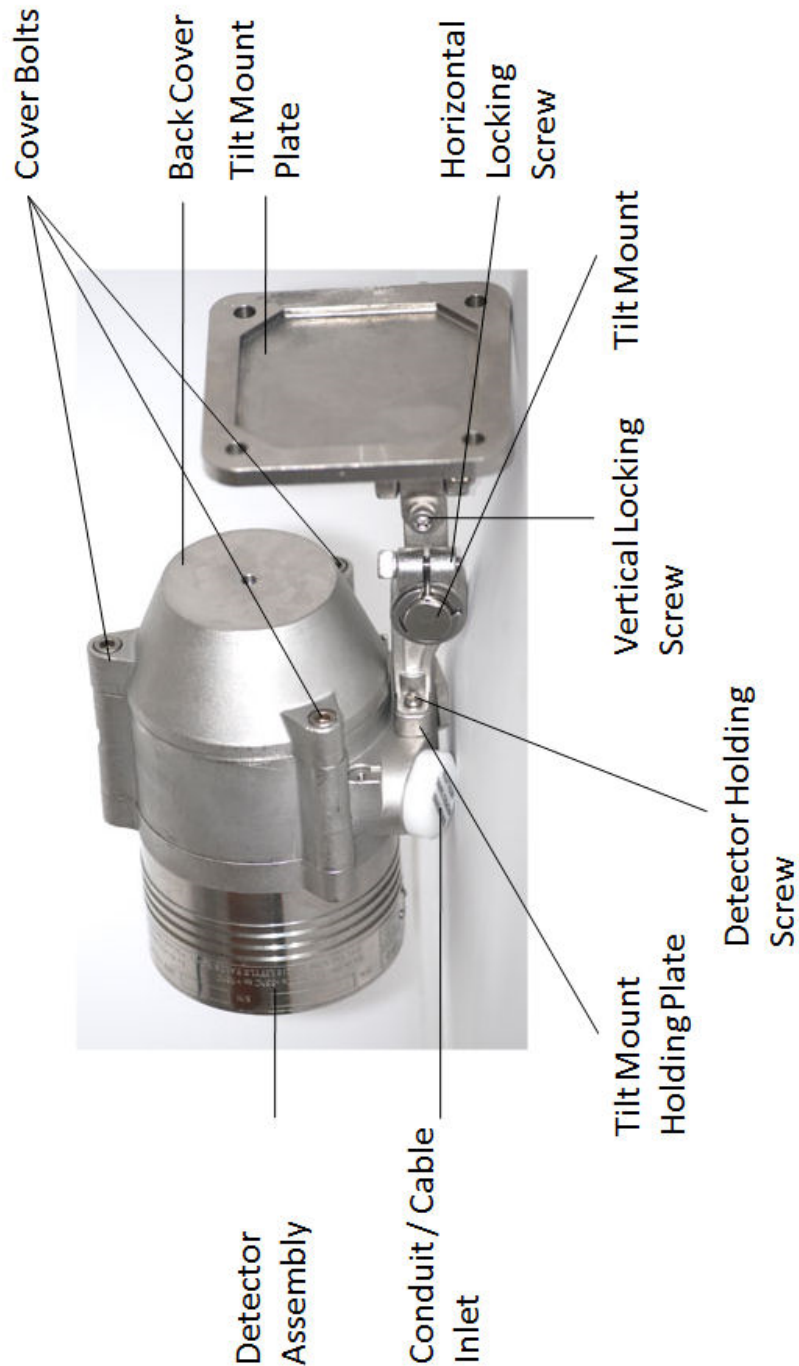

Figure 4: Detector with Tilt Mount
The Tilt Mount enables the detector to be rotated up to 60° in all directions. Figure 4 shows the detector mounted on the Tilt Mount.
- 9 Place and secure the detector's back cover by screwing the three (3) socket-head screws into the Cover Bolts (Figure 4).